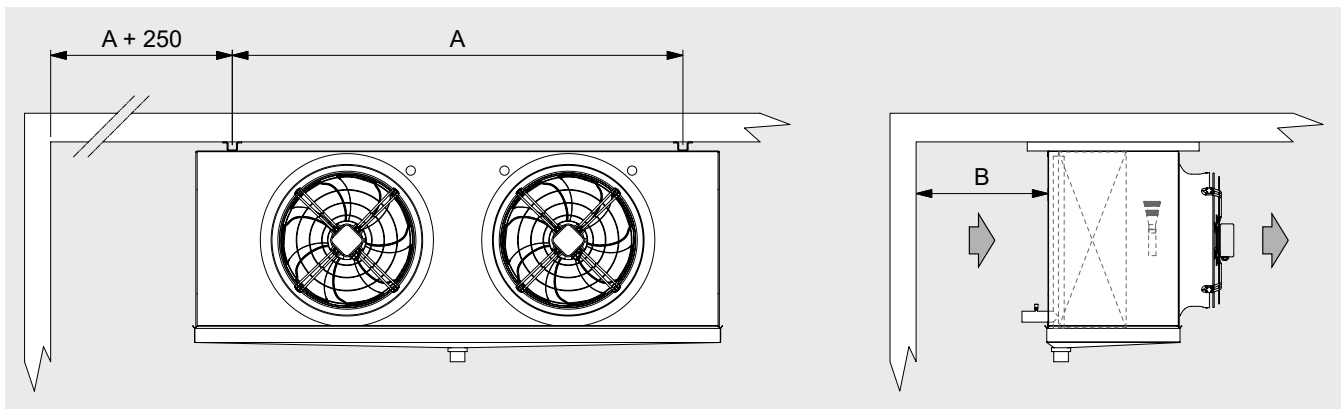

Figure 5
- 6.9 Ensure an adequate free space (approx. 30% of the inner room volume) to allow a proper intake and exhaust air circulation. Keep the minimum distance so as to take out / insert the heaters. Keep the minimum distance from the wall. See Figure 5, dimensions in mm.